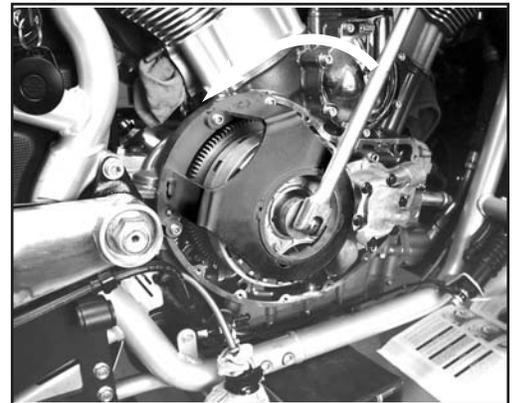

Fig.2
2. Remove clutch hub nut. **Fig. 2**. Loctite is used to help secure clutch hub nut. Heat may be required to break down the Loctite to loosen nut. Be cautious when applying heat to the clutch hub nut, as excessive heat will damage pressure plate springs. If necessary an impact wrench may be used to loosen nut only (Not for installing). See service manual.